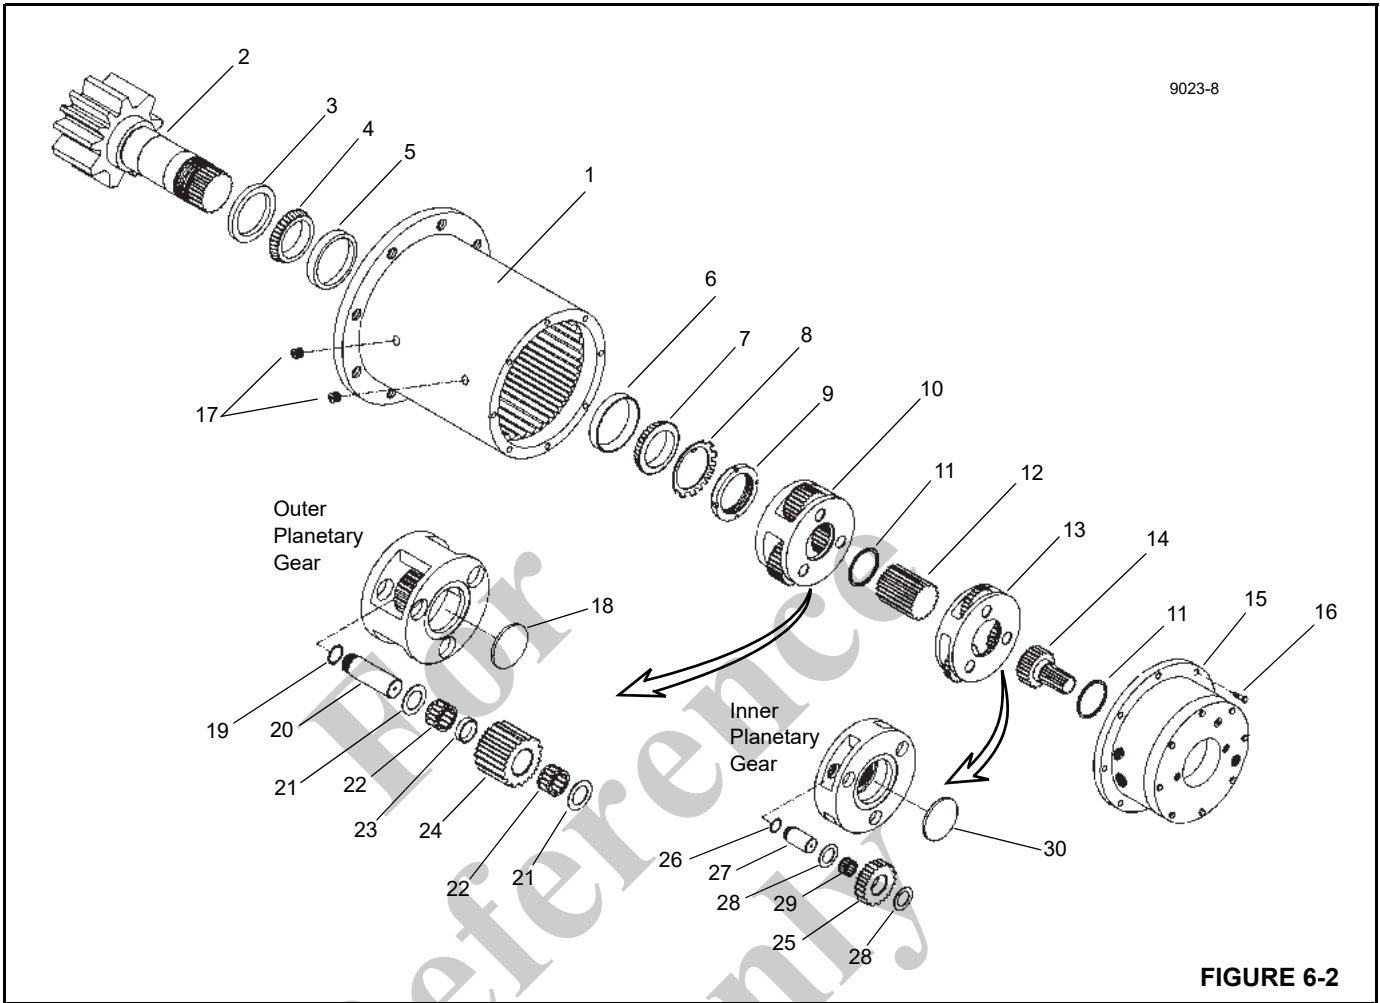

FIGURE 6-2
If the swing drive needs repair, see Figure 6-2 for the disassembly and assembly procedure.
- Lock nut (9, Figure 6-2) and lock washer (8)
See Figure 6-2 for the following procedure.